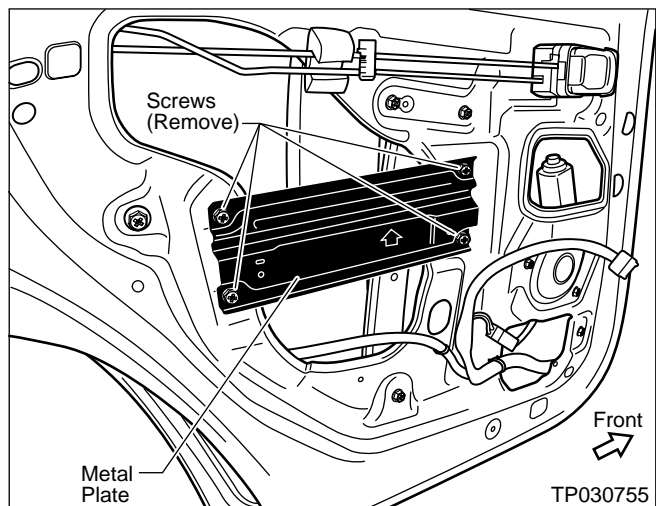

Figure 16
6. Take out four screws and remove the Metal Plate (see Figure 16).